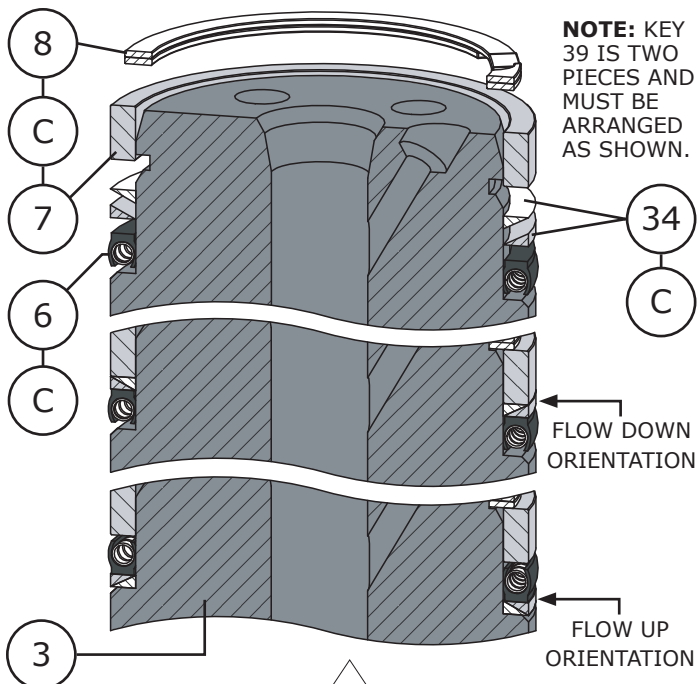

Figure 18 Plug Seal Assembly with Anti-Extrusion Ring
- 3 If required, apply white petroleum grease (Key C) to the anti-extrusion ring (Key 34) and install the anti-extrusion ring on to the valve plug as shown in Figure 18. **NOTE:** Anti-extrusion rings are only used for valve assemblies rated to exceed 450°F (232°C).